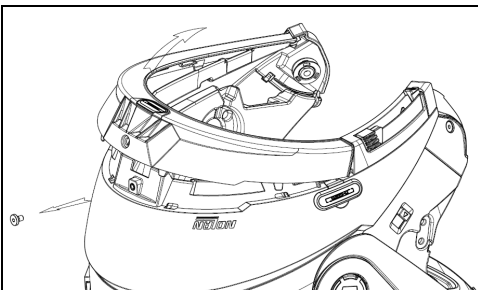

Fig. 3
- Completely remove the gasket as shown in Fig. 3; by doing so you also remove the padding.